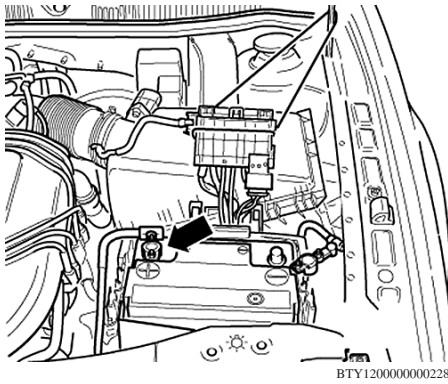

Fig. 12 Fuse holder fastening
9. Secure fuse holder to front hood support with elastic cord, as illustrated in **Fig. 12**.
10. Loosen battery positive terminal clamp fastener (arrow), and remove terminal from battery post, **Fig. 12**.